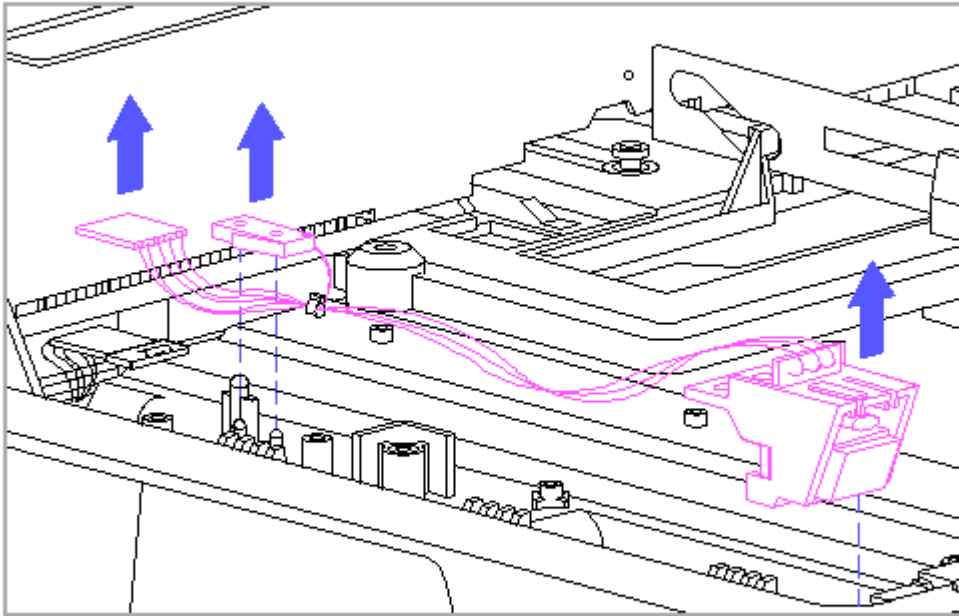

Figure 9-50. Removing the Eject Switch Cable Harness
9. Remove the eject switch cable harness (Figure 9-50).